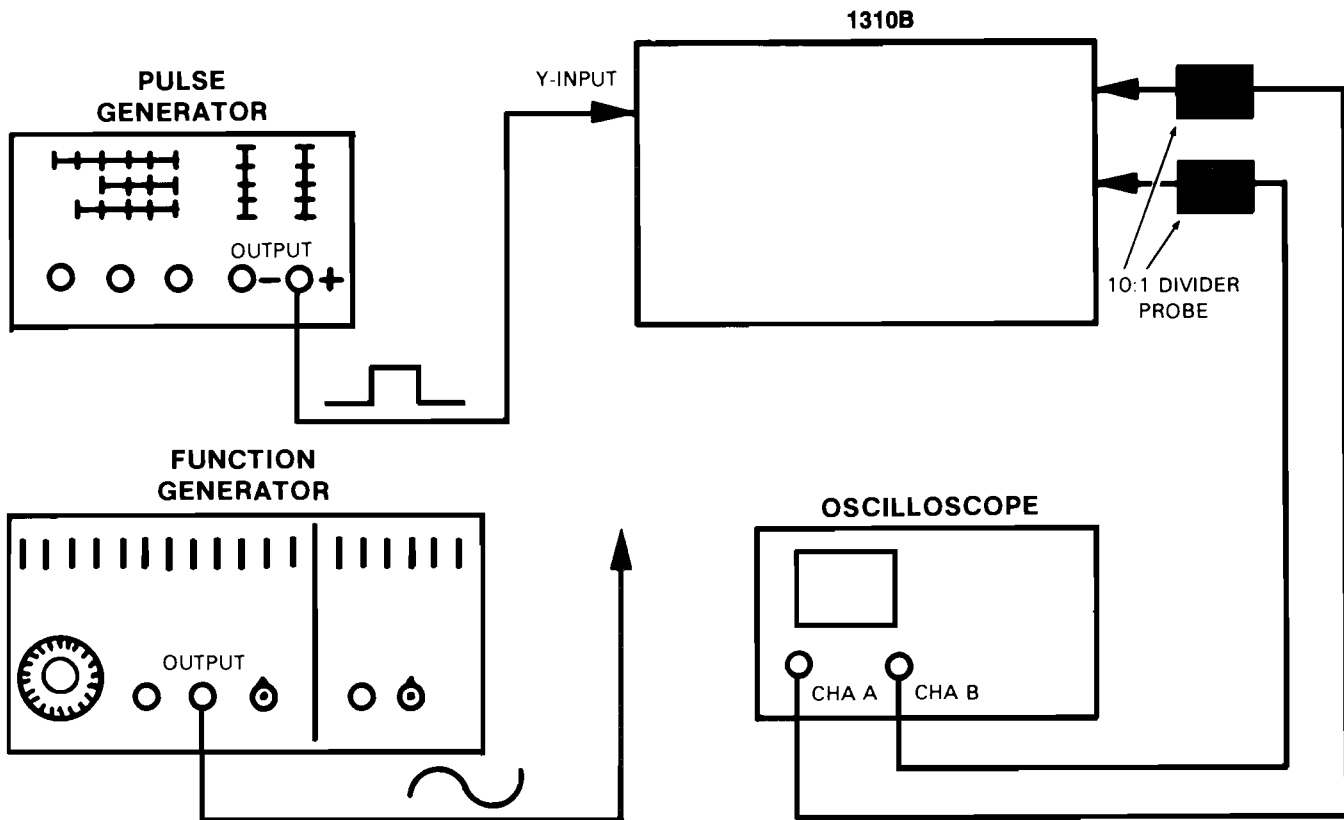

Figure 5-10. Y-amplifier Pulse Response and Bandwidth Adjustment Setup
- Connect equipment as shown in figure 5-10.